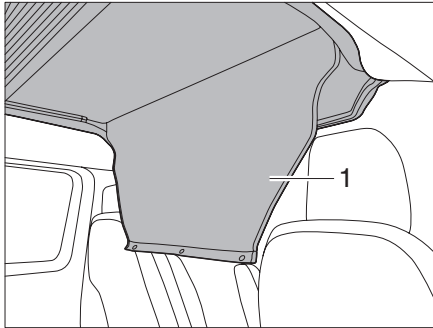

Fig. 41 Unroll the access cover
- ▶ Unrolling the access cover (Fig. 41,1).
- ▶ Close the access cover (Fig. 41,1) with the press-studs.